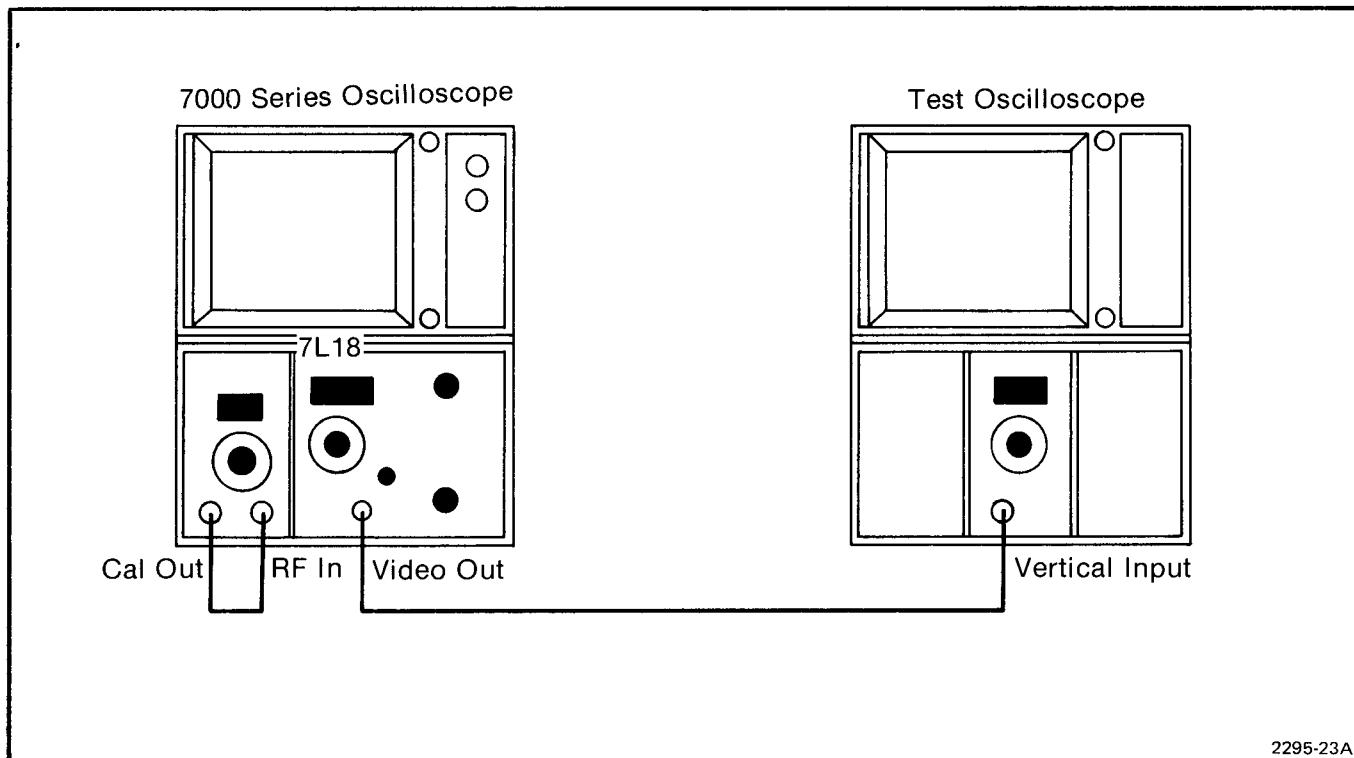

Fig. 4-15. Video Output Level Test Setup.
a. Connect the test setup as shown in Fig. 4-15. Apply the VIDEO OUT signal of the 7L18 to the input of a dc-coupled test oscilloscope with sensitivity set to 1 V/div. Set the 7L18 Display Mode to LOG 2 dB/DIV, REFERENCE LEVEL to -20 dBm, TIME/DIV to AUTO, FREQ SPAN/DIV to 100 kHz, and RESOLUTION BANDWIDTH to 300 kHz.